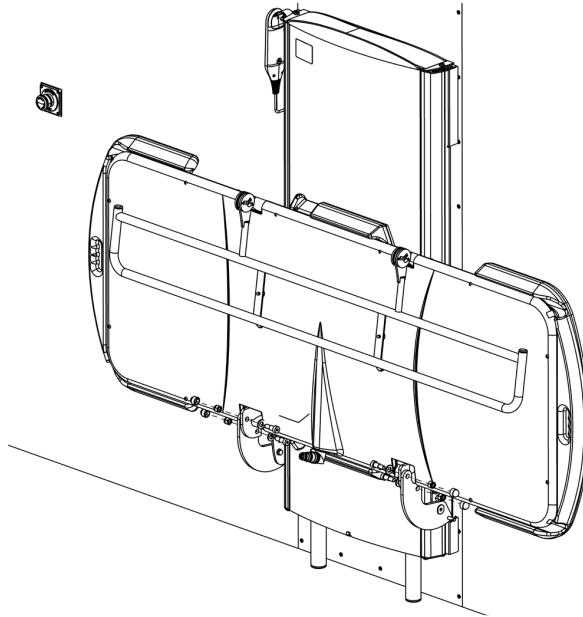

Fig 12.7c
- With two people, lift the stretcher vertically and slot the SBU arms in the middle of each stretcher brackets, see Fig 12.7c.